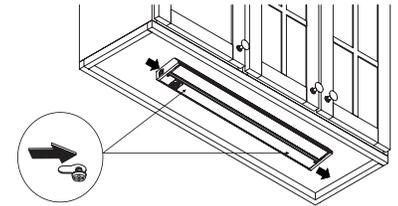

Figure 16
5. Mount the fixture to surface aligning the screws to keyholes and sliding over until narrow ends of the keyhole slots are under the heads of the wood screws (fig. 16).